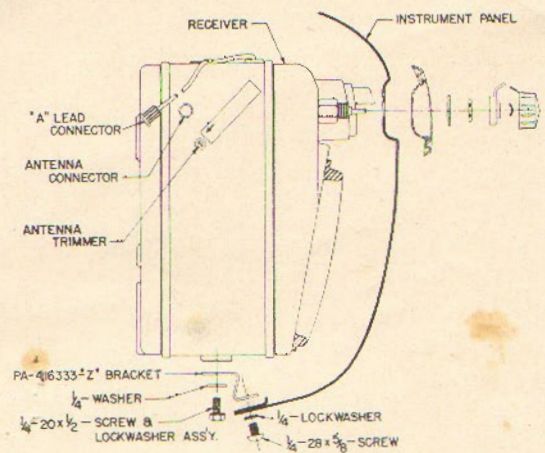

Figure 2
- Mount the "Z" bracket to the bottom of the RADIO using the plain washer and the screw and lockwasher assembly. Tighten "hand tight." (Fig. 2)
- Attach "Z" bracket to the hole provided in the instrument panel with a self-tapping screw and lockwasher. Then tighten the screw holding the "Z" bracket to the radio. (Fig. 2)
- Plug antenna lead into the socket shown in Fig. 2.
- Turn the radio on and allow it to warm up (10 to 15 minutes). With the antenna fully extended, tune in a weak station between 1000 and 600 KC and adjust the antenna trimmer for maximum volume. (See Fig. 2)